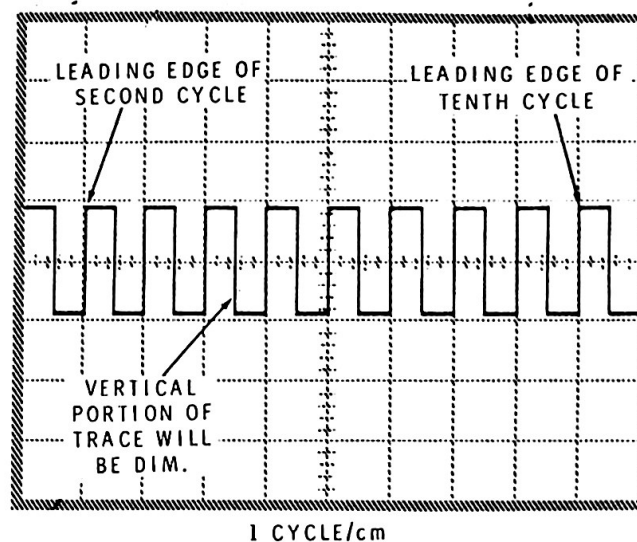

Figure 18
4. Refer to Figure 17 in the "Illustration Booklet" and carefully adjust the X CAL control (R268, on the horizontal circuit board) and the HORIZ POS control for exactly 10 cycles in 10 centimeters (1 cycle per centimeter) as shown in Figure 18. Use the leading edge of the second and tenth cycle for this adjustment.
15. Refer to Figure 17 in the "Illustration Booklet," and carefully readjust the X CAL control (R268, on the horizontal circuit board) and the HORIZ POS control for exactly 10 cycles in 10 centimeters (1 cycle per centimeter) as shown in Figure 18. Use the leading edge of the second and tenth cycle for this adjustment.